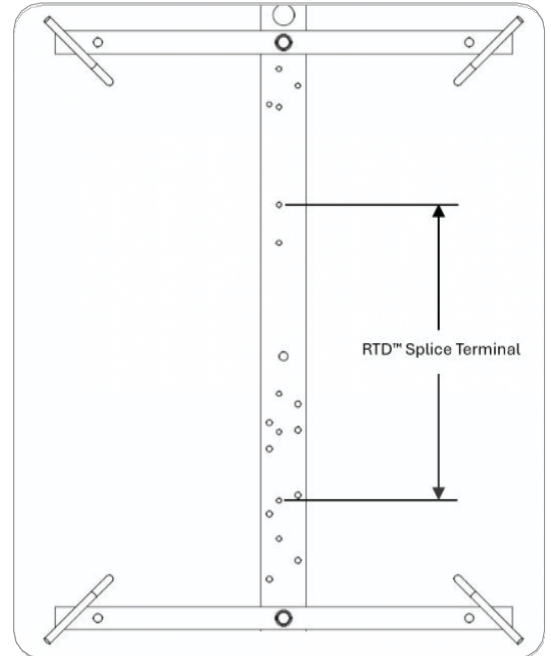

Figure 75
2. Align the brackets with the holes shown in Figure 75 and attach to the coil bracket using the hardware in kit, AFL No. HW150510.